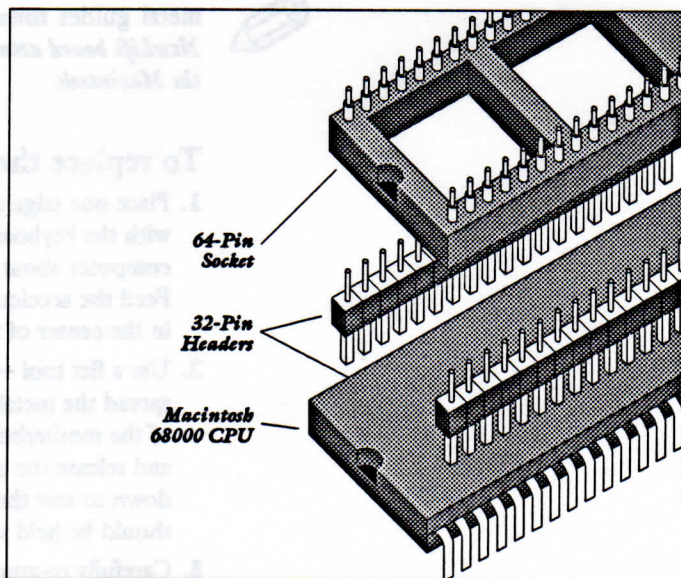

Figure 10: Exploded view of the pin mount
2. You must solder header strips onto the pins of the Macintosh CPU. Two 32-pin header strips are supplied, mounted under a 64-pin socket as shown in Figure 10. The 64-pin socket is only used as a carrier for the header strips to simplify the soldering procedure — once you are done, discard the socket.